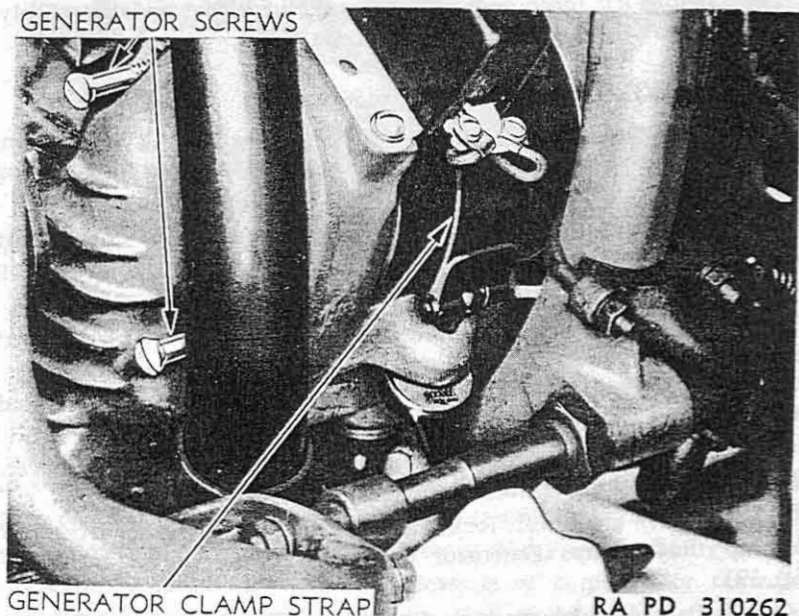

Figure 59—Removing Generator Strap Nut
(3) Remove strap nut, lock washer, and curved washer from end of strap that clamps generator in its cradle on engine crankcase (fig. 59).
(4) Lift strap high enough to permit raising generator so that oil slinger (on end of generator gear) will clear adjacent gear, and allow generator to be removed from engine. Be sure to observe and